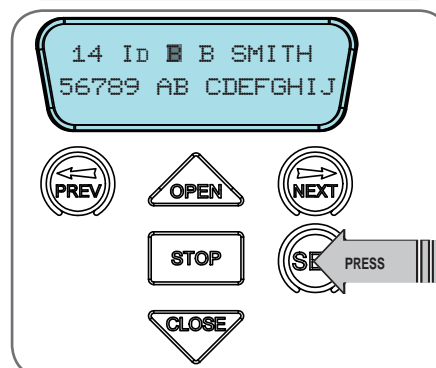

Fig F.6
- Press NEXT to reveal the Serial Number (**Fig. F.6**).